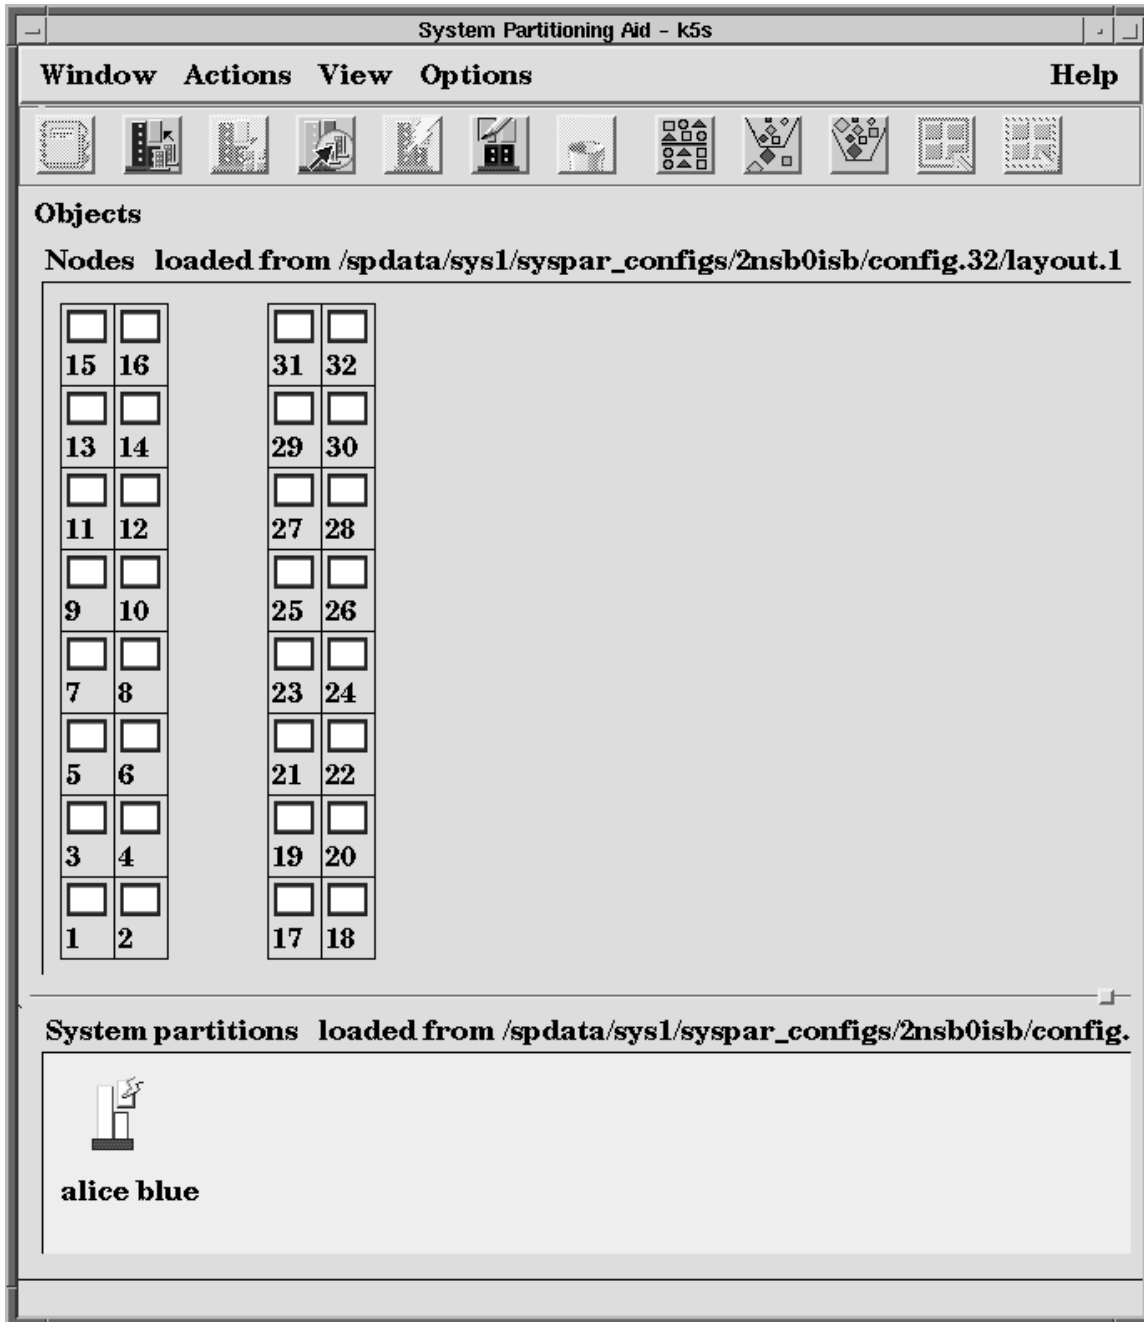
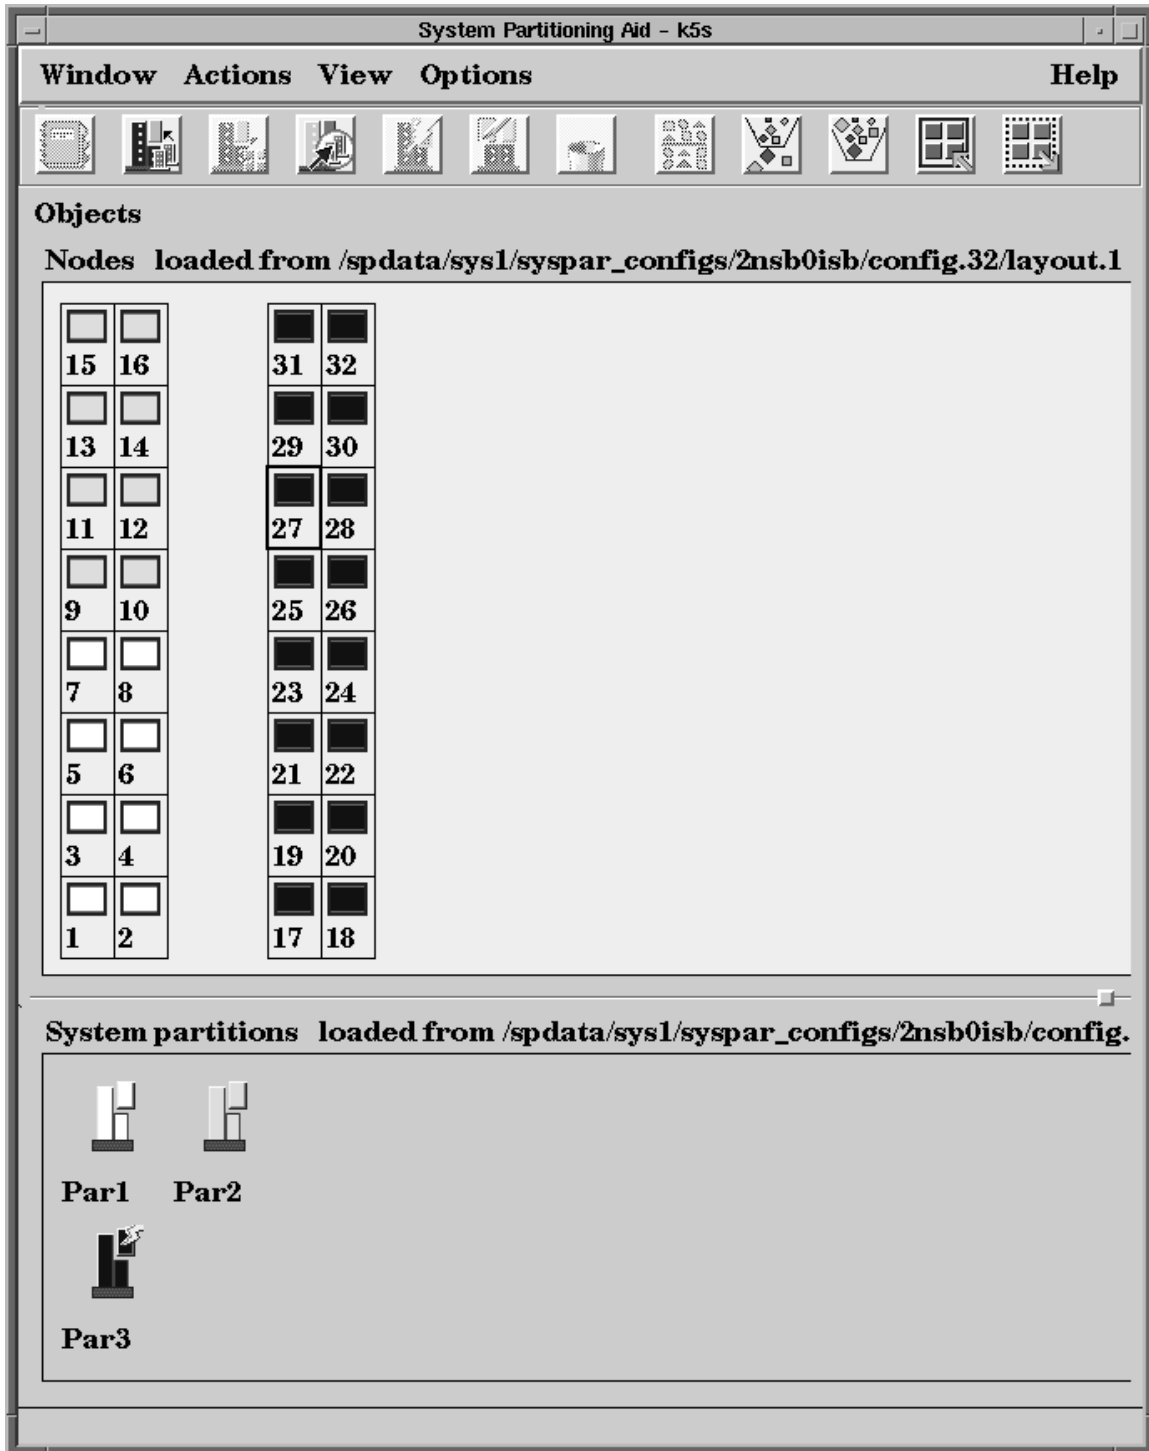

Figure 46. Main Window for Example 3 of Chapter 5
Figure 47. System Partitioning for Example 3 of Chapter 5
3. Select the "2 16 port switches" and select the "32" configuration. You find there is only one such layout. Select this layout and open it. You now have a 2-frame, 32-node system as shown in Figure 46 on page 189. The system partition name "alice blue" is a default choice, which matches the default color chosen by the tool.
Your objective for system partitions is to divide the system pictured in Figure 46 into 3 pieces: the lower half of Frame 1, the upper half of Frame 1, and Frame 2. You may perform the following tasks to accomplish this, and arrive at Figure 47 on page 191: